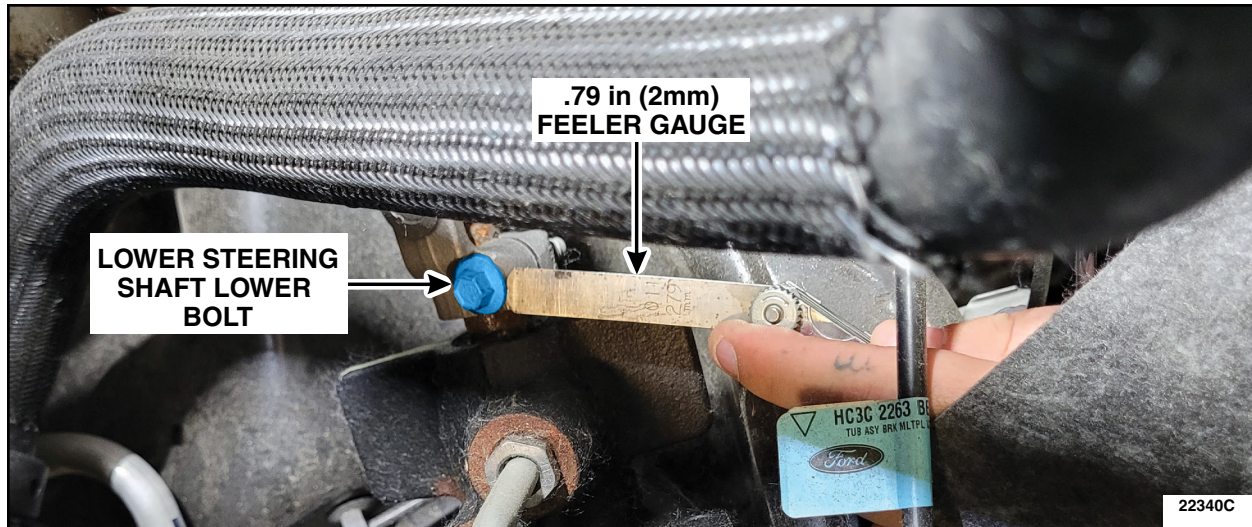

FIGURE 2
2. Using a .79" (2mm) feeler gauge measure the gap between the lower steering shaft lower bolt and the steering yoke. Is the gap .79 in (2mm) or greater? See Figure 2.